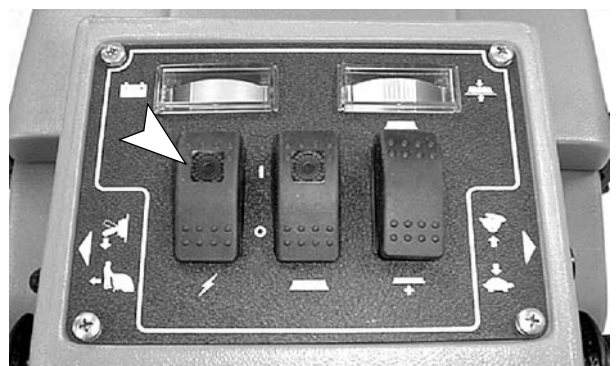

FIG. 10
- Turn on key, if equipped, then turn on the main power switch (Figure 10).